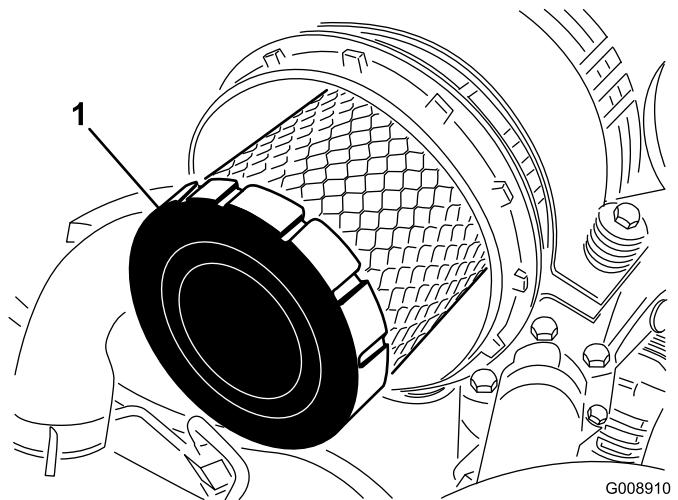

Figure 60
- Remove and replace the primary filter (Figure 60).